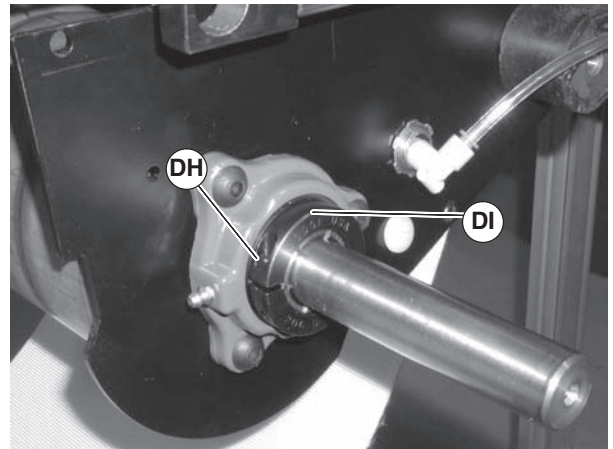

Figure 98
6. Loosen clamp screw (Figure 98, item DH) and remove bearing collar (DI).